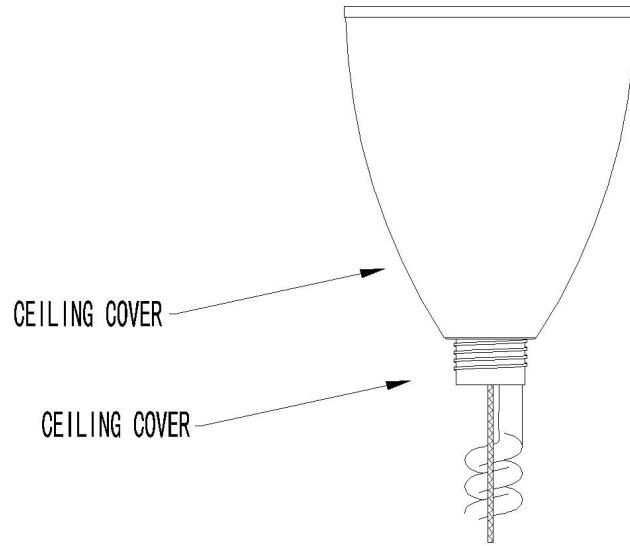

FIGURE 2
- Remove ceiling cover attachment nut. (See figure 2).